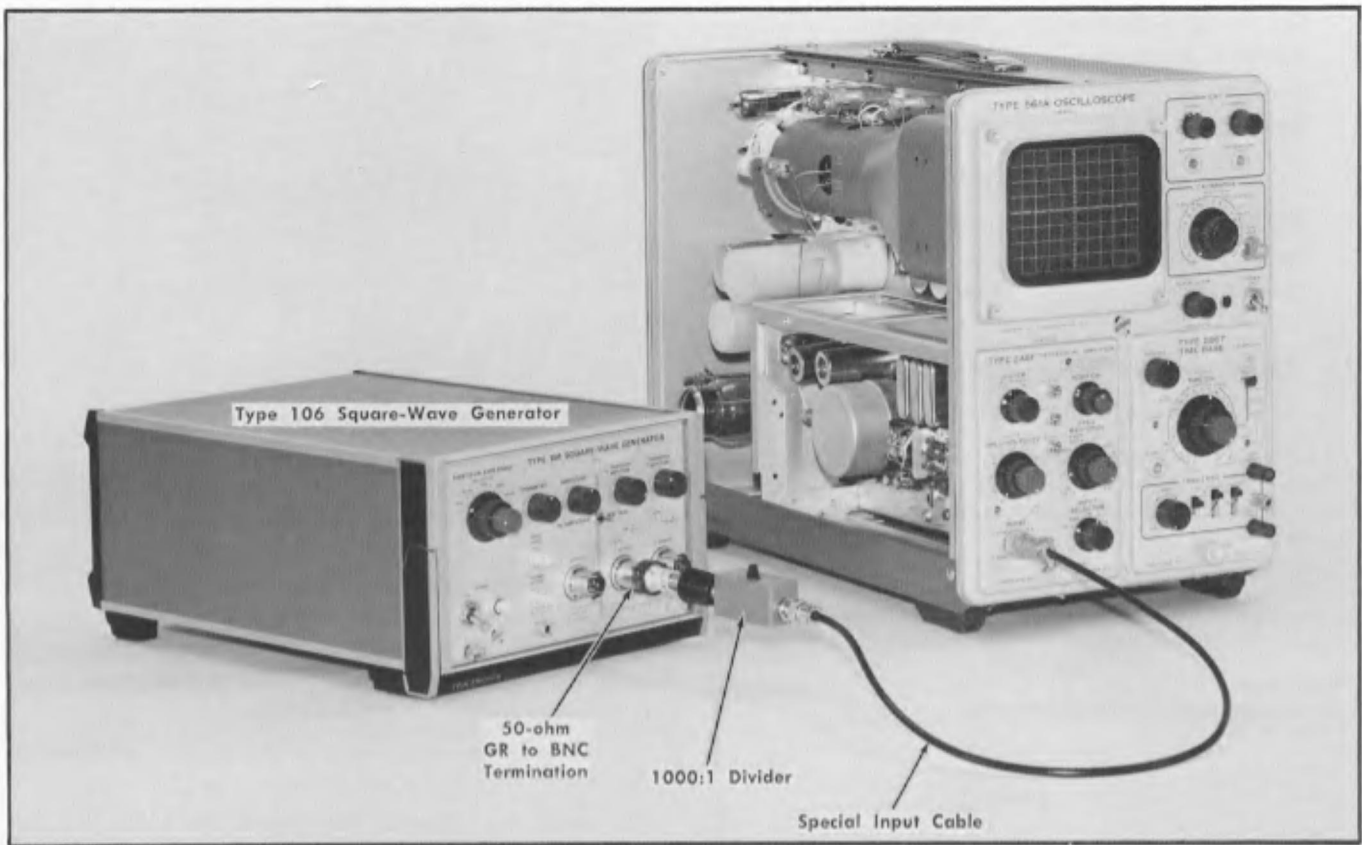

Fig. 6-28. Test equipment setup for alternate method of checking Low Frequency Limited Response.
- a. Test equipment setup is shown in Fig. 6-28.